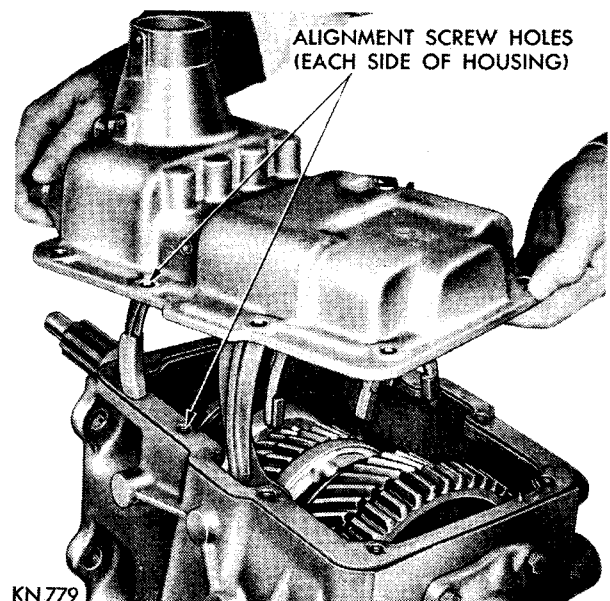

Fig. 3—Removing or Installing Cover
- (1) Place transmission in stand, or on bench.
- (2) Use a screw driver (or install gearshift lever) inserted in gearshift lever opening and shift transmission into 2nd speed for 540 and 3rd speed for 542.
- (3) Remove transmission cover screws. Note location of (2) alignment screws (Fig. 3). Alignment screws use split type lockwashers.
- (4) Remove transmission cover by lifting upward while carefully rotating housing counterclockwise, (Fig. 3).
- (5) On the 542 transmission, it may be necessary to move first speed gear back slightly allowing offset curve in shift fork to clear rim of gear.
- (6) Movement of transmission cover, during removal, will usually cause the second-third speed synchronizer assembly to be rotated into a position which will allow sufficient clearance for the reverse shift fork to be withdrawn. If gear train is so damaged that synchronizer unit is not free to turn, the drive shaft can be slowly rotated by an assistant to place pins in required position, while transmission cover is being removed.
- (7) Lock transmission in two gears and remove output flange nut, with yoke and parking brake drum as an assembly (if used). **The drum and yoke are balanced and unless replacement of parts is required it is recommended that drum and yoke be removed as a unit assembly.**